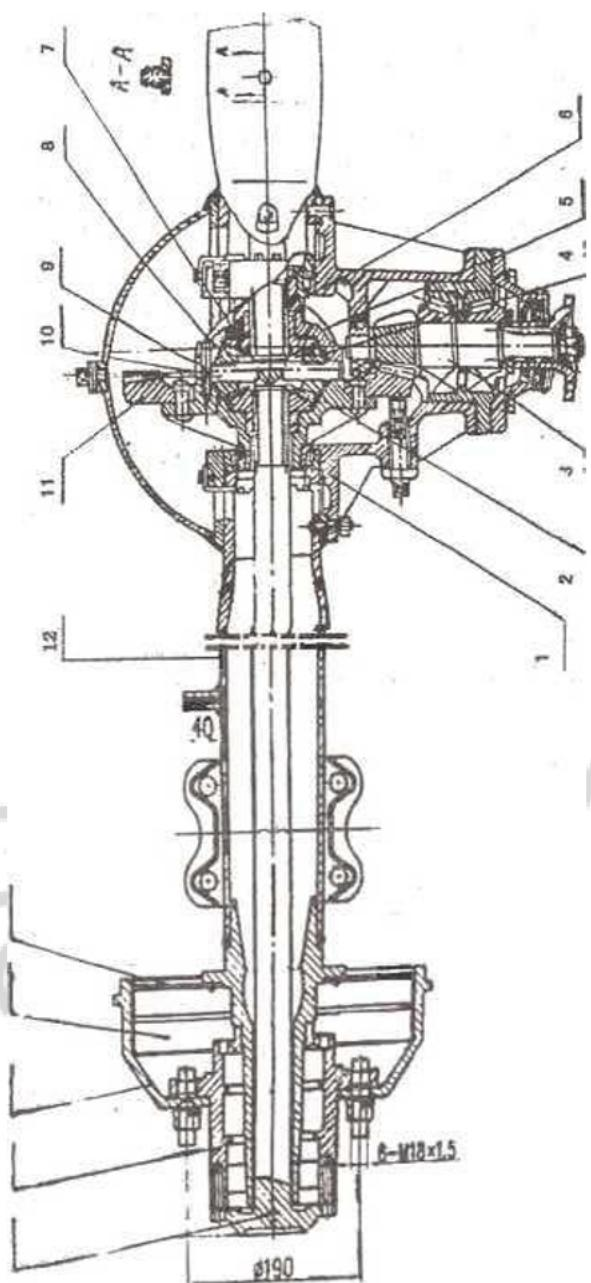

Figure 2-8: Structure of Driving Axle
The structure of driving axle (as shown in Figure 2-8): composed mainly of axle housing, main retrace and diff assembly, series axis, etc. The axle housing is installed on the frame, bearing the load from the frame and transmitting the same to the wheels. The axle housing is also the main retarder. The semi axis is installed on the supporting mass. The main retarder is the 1-stage spiral bevel gear retarder, transmitting the torque and movement from the drive shaft. Diff consists of two cone-shaped straight teeth semi axis gears (5), cross axle (2) and four cone-shaped straight teeth differential gears (4)* left and right diff cases (2, 6) It plays a differential role for the different speeds of the left and right wheels and transmits the torque and movement of the main retarder to the semi axis that is linked to the hub (6) with the double-screw bolt.